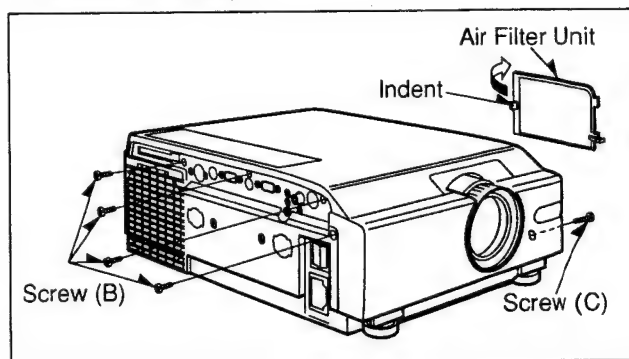

Fig. D3
2. Remove 4 screws (B) as shown in Fig. D3.
4. Remove a screw (C).